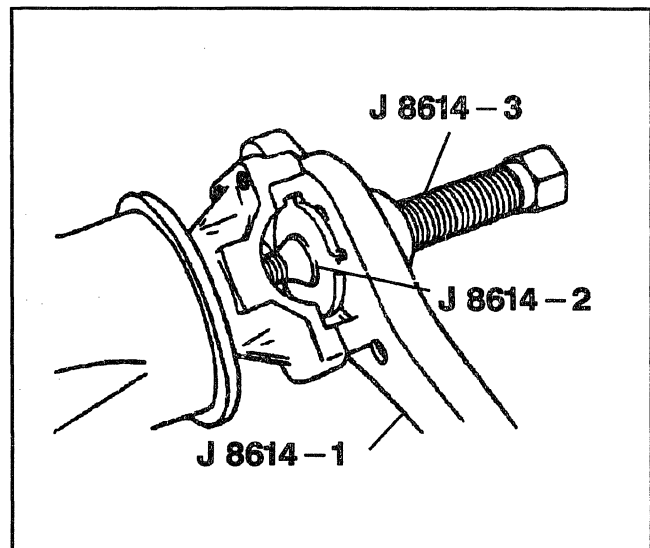

Figure 16—Installing the Pinion Flange
6. Pinion flange (37) to the pinion by tapping it with a soft faced hammer until a few threads show through the pinion flange.
7. Pinion washer (36) and a new nut (35) while holding the pinion flange with J 8614-01 (Figure 16).